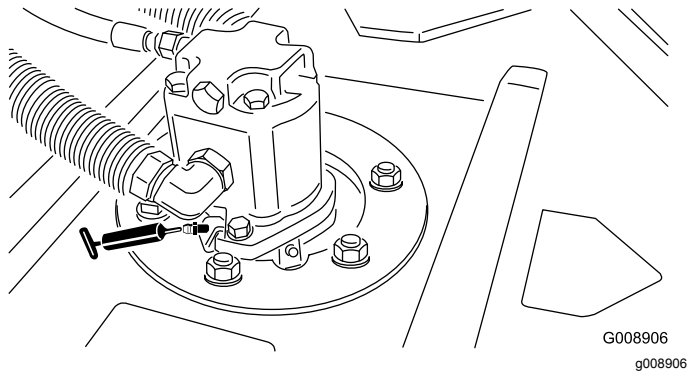

**Figure 44**
- Neutral-adjustment mechanism (Figure 44)
- Steering cylinder (Figure 44)